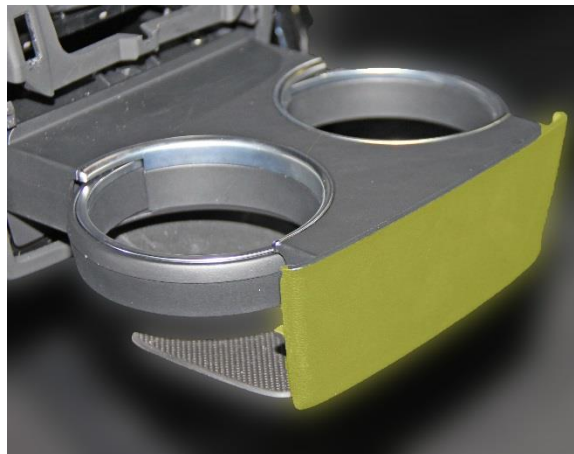

Figure 24. Rear cupholder trim panel
- g. Remove the rear cupholder trim panel (Figure 24), then close the rear cupholder.